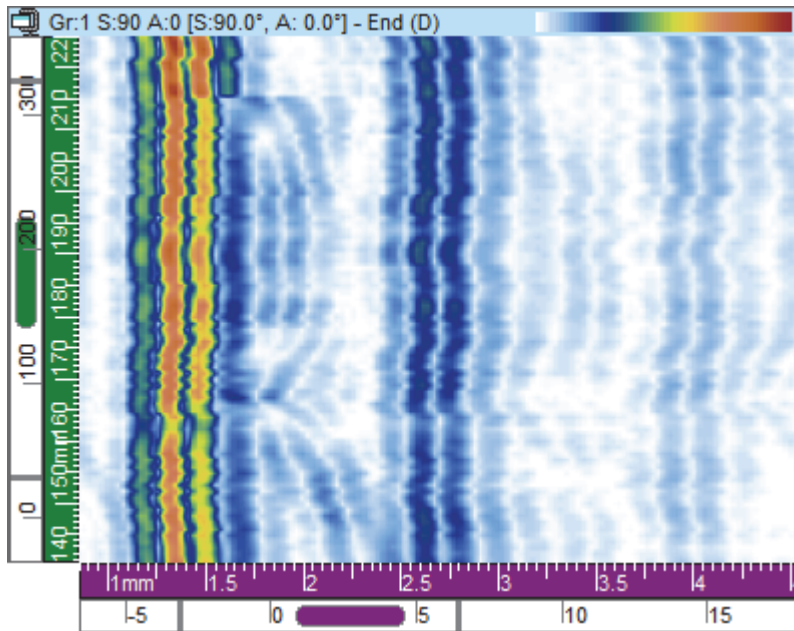

Figure 3-24 Example of End (D) view
The End (D) view (Figure 3-24 on page 82) is a two-dimensional graphical presentation of the recorded data. One of the axes is the defined index axis; the other is the uncorrected ultrasonic (USound) path. The position of the displayed data is related to the encoder positions at the moment of acquisition. At a given position on the projected image, the color corresponds to the maximum amplitude at this position as detected in the considered scan-axis range.